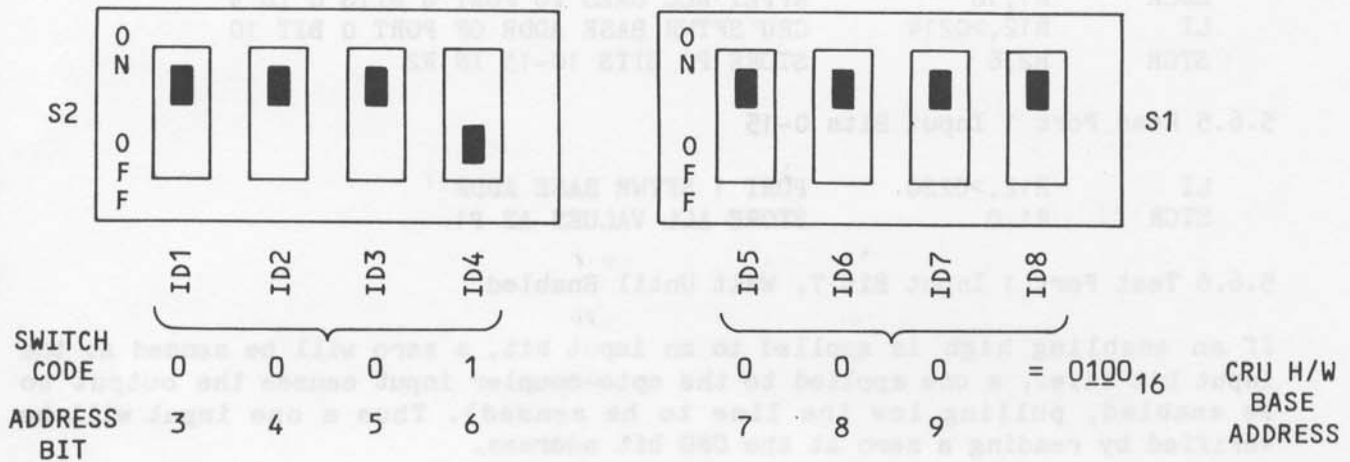

FIGURE 5-4. SETTINGS OF SWITCHES S2 AND S1 FOR PROGRAMMING EXAMPLES
- The example CRU Hardware Base Address is 0100₁₆ and the CRU Software Base Address is 0200₁₆; thus, switches S2 and S1 are set as shown in Figure 5-4.